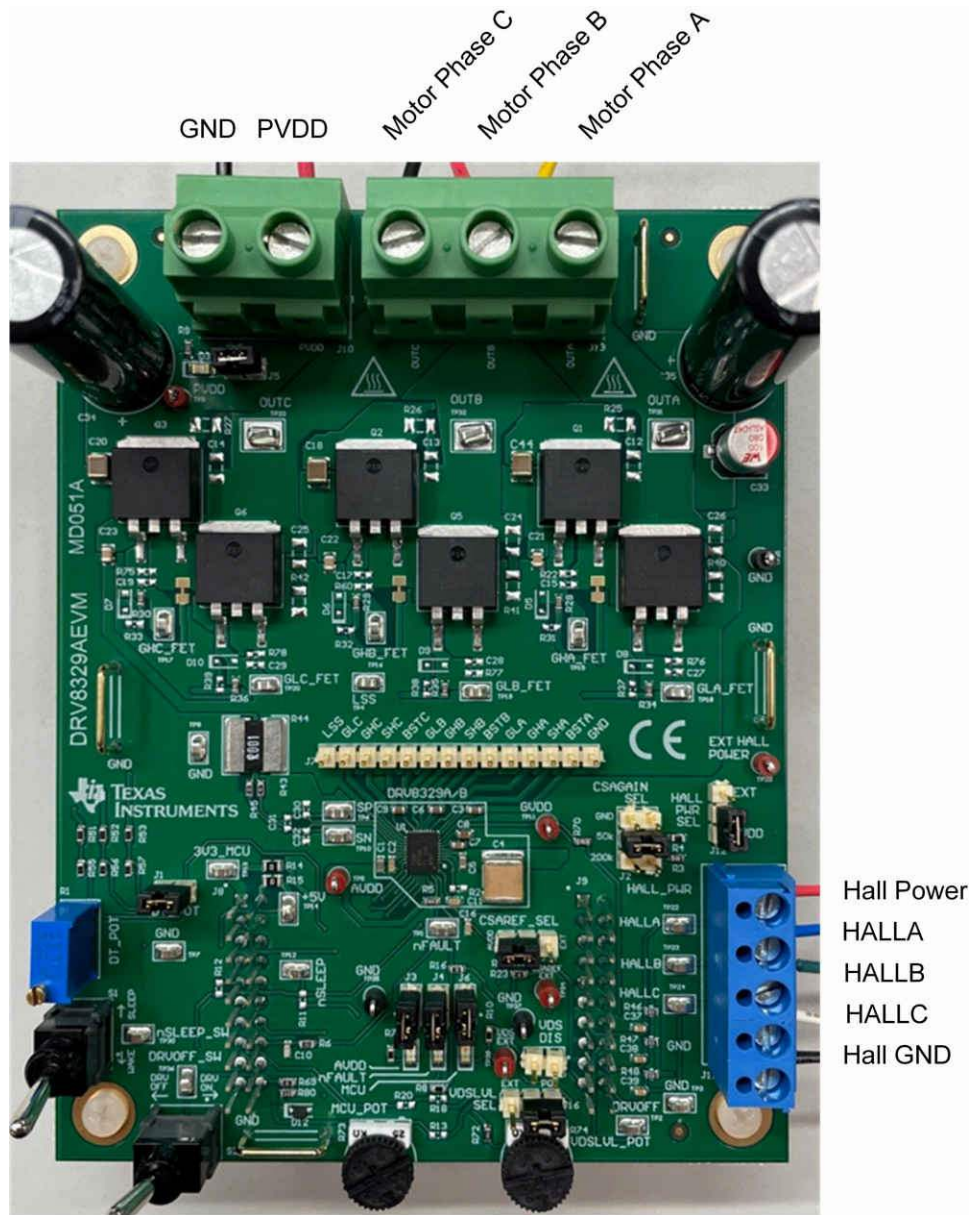

Figure 4-2. Connections from motor to DRV8329AEVM
2. Connect the motor phases to OUTA, OUTB, and OUTC in the correct order to connector J13. For sensed applications, connect the Hall sensors to the appropriate locations on the 5-pin connector J11 as shown in Figure 4-2. Select AVDD or EXT on jumper J11 to choose the Hall power source voltage.
Figure 4-2 shows the power supply and motor connections made to the DRV8329AEM in order to spin a 3-phase sensored or sensorless Brushless-DC motor.